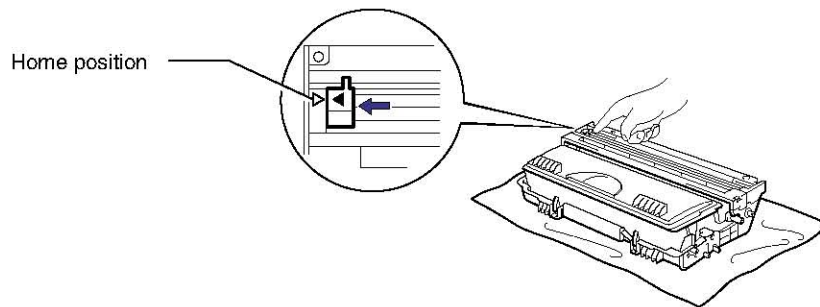

Fig. 5-8
- Make sure that the wire cleaner on the drum unit is returned to the home position (▲ mark position) before re-installing the drum unit into the printer, or printed pages may have vertical stripes. (Refer to Fig. 5-8.)